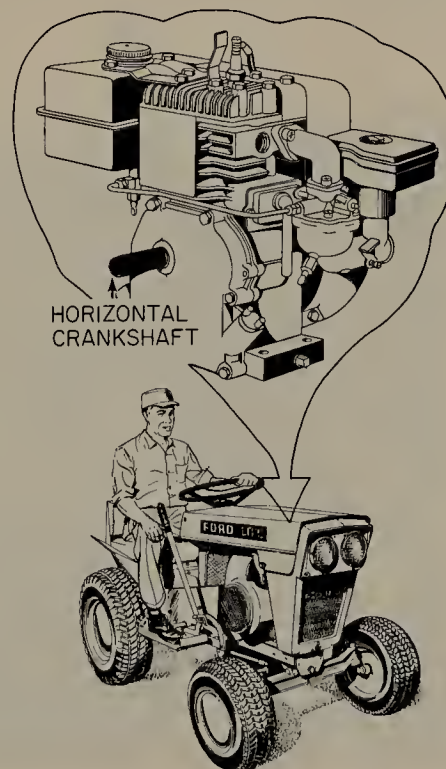

FIGURE 4.18 Some small engines have a horizontal crankshaft such as this one used in a riding mower.
2. Horizontal, as shown in Fig. 4.18